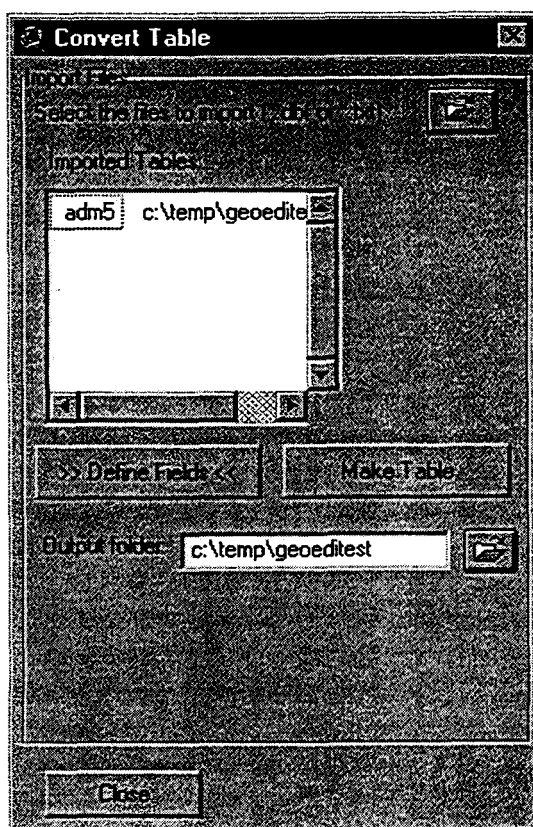

Figure 43 Convert Table Dialog Box.
- Select the **File Conversion** in the GeoEditor menu in the project window. The **Convert Table** dialog box will open, see Figure 43.